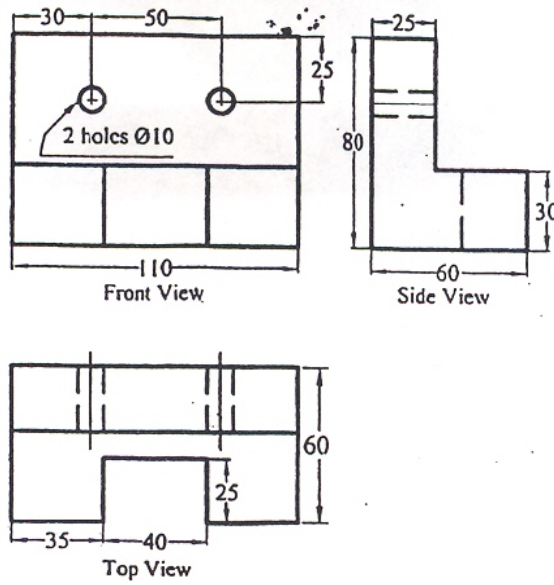

Fig. 1
5. Draw the isometric view of the object shown in Fig. 1.